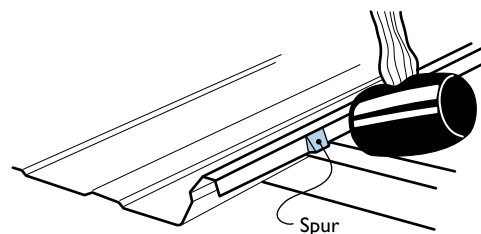

Figure 9.1.4
3. **KLIP-LOK 406:** If a spur on the edge of a KLIP-LOK 406 sheet fouls a clip, flatten the spur with a rubber mallet to allow the clip to sit down over the rib (Figure 9.1.4).
KLIP-LOK 406 & 700: Engage the clips over the rib of the installed sheet (Figure 9.1.5). If a spur on the edge of the sheet fouls a clip, flatten the spur with a rubber mallet to allow the clip to sit down over the rib (Figure 9.1.4).